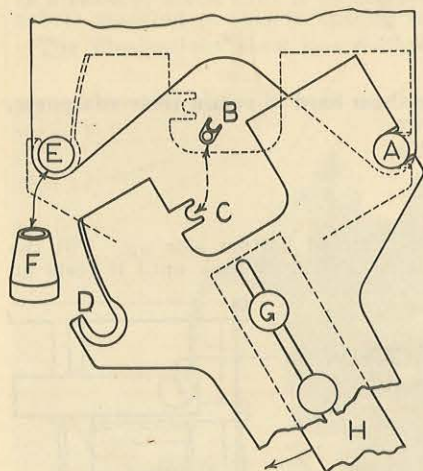

Figure 15
**E2—TO ATTACH.** Lock up the Cutawl guide foot (see page 6). Hook the slot in the right side of the circle cutting attachment over the ball handle stud A as shown in figure 15. With
**E3—TO SET SIZE.** To cut a circle of any desired diameter from  $\frac{3}{4}$  inch to 48 inches, loosen the two thumb screws G, figure 15, and move the adjustable slide H until the arrow on it is opposite the desired size on the scale. This scale is marked in  $\frac{1}{4}$  inch divisions from  $\frac{1}{2}$  inch to 48 inches. When the pivot pin in the adjustable slide is in the end nearest to the chisel, the slide can be set for circles from  $\frac{3}{4}$  inch to 24 inches. To cut larger circles, remove the thumb screws, reverse the slide end for end, and insert the thumb screws in the end of the slide opposite to the pivot pin. The slide may now be set to cut circles from 24 to 48 inches. When the size is set, tighten both thumb screws securely.